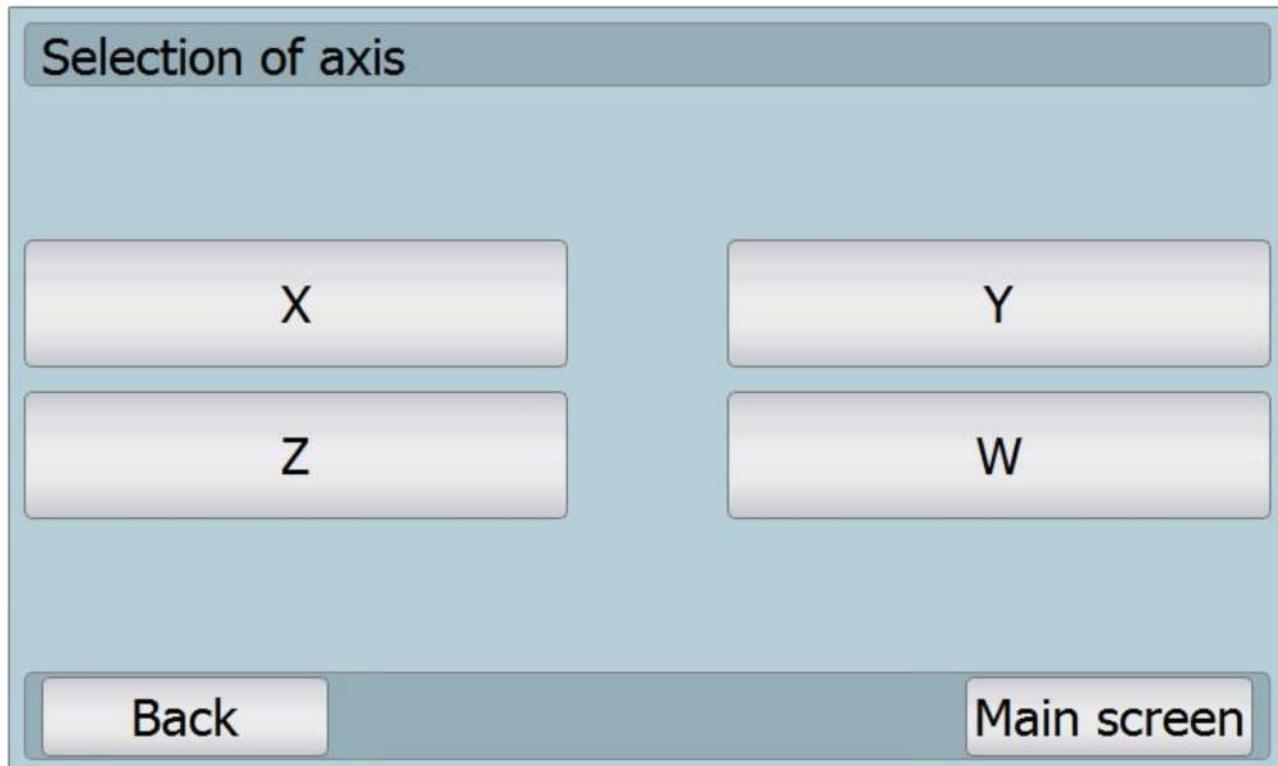

Fig. 30: Axis displayed – axis selection for the setting
- ⑩ It is used for setting the parameters for individual axes.
- ⑩ After pressing button „**Nastavení os**“ (setting axes) the axis selection is displayed which requires the setting (see fig. 30: Axis displayed – axis selection for the setting).
- ⑩ After axis selection a setting for the selected axis displays.